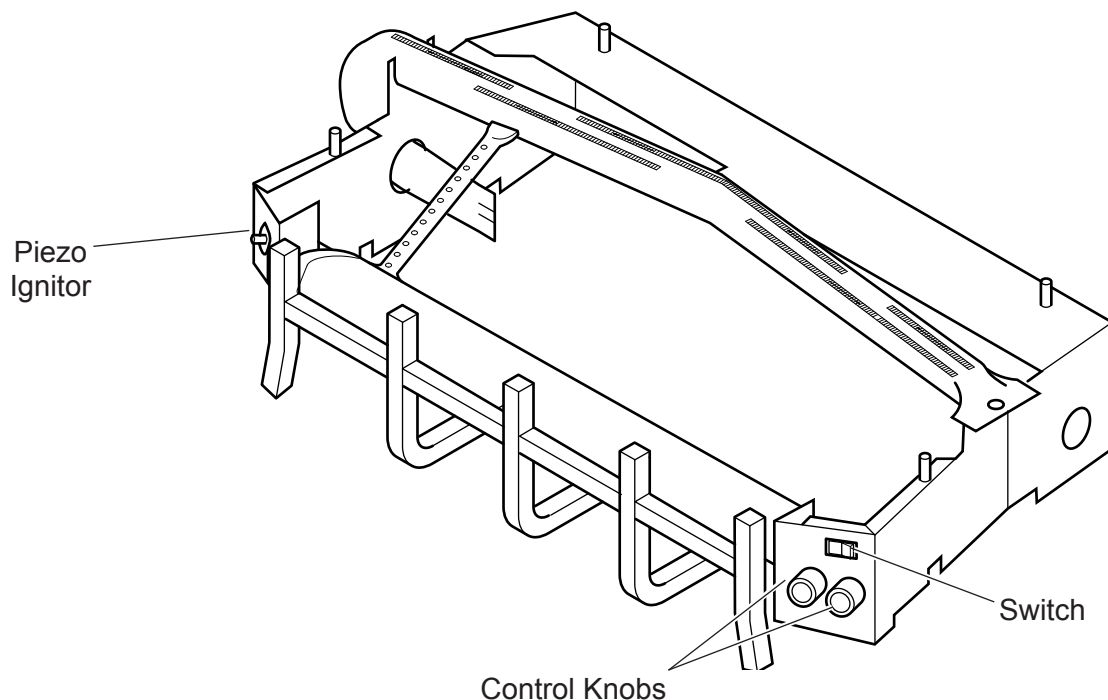

Figure 33 - Location of Piezo Ignitor, Control Knobs and Switch on Milli-volt, Thermostat, Hi/Lo and Manual Units
4. Refer to *Figure 33, page 29* for the location of the piezo ignitor and control knob. Push in gas control knob slightly and turn control knob clockwise  to the OFF position.